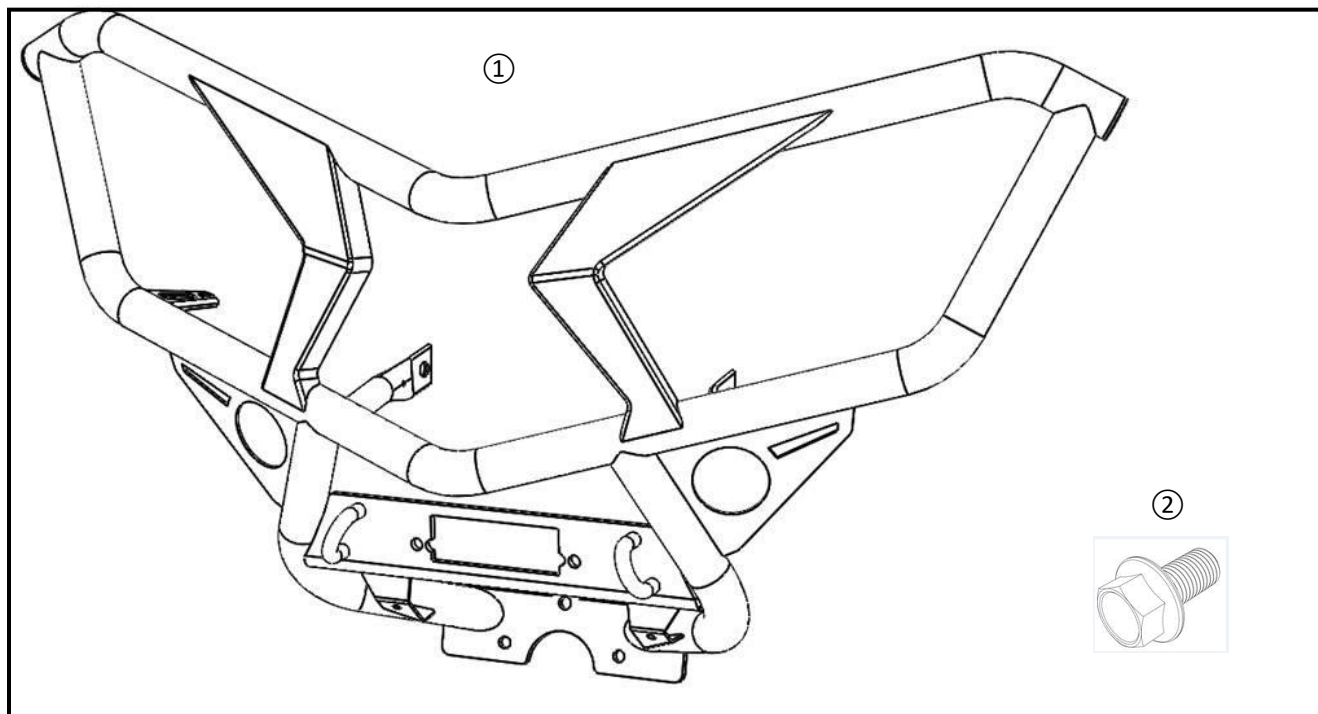

Fig. 1
10. Install the stock front bash plate to the mounting points using the stock bolts. Torque the bolts to 7 Nm (0.7 kg-m, 5.1 ft-lb). Refer to (Fig. 1).